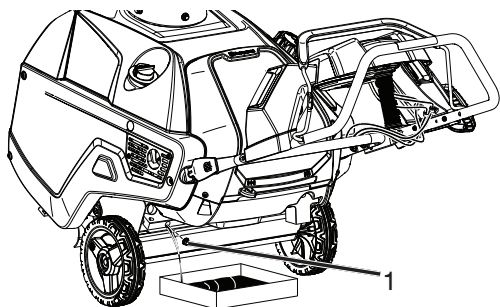

Figure 24
4. Place an oil drain pan under the oil drain plug and remove the oil drain plug. Tip the snowthrower backward and drain the used oil in the oil drain pan (Figure 24).